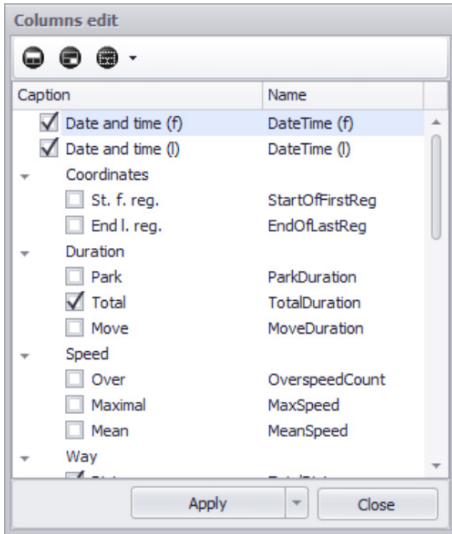

Fig. 106. Edit columns menu.
To set up columns – add new or delete undesired – go to the “Columns edit” menu by clicking the “Columns edit” button on the Trips selector toolbar. An example of the “Columns edit” menu is shown in Fig. 106.
- Click the “Add custom column” button on the toolbar (upper bar) in the “Columns edit” menu (Fig. 106).